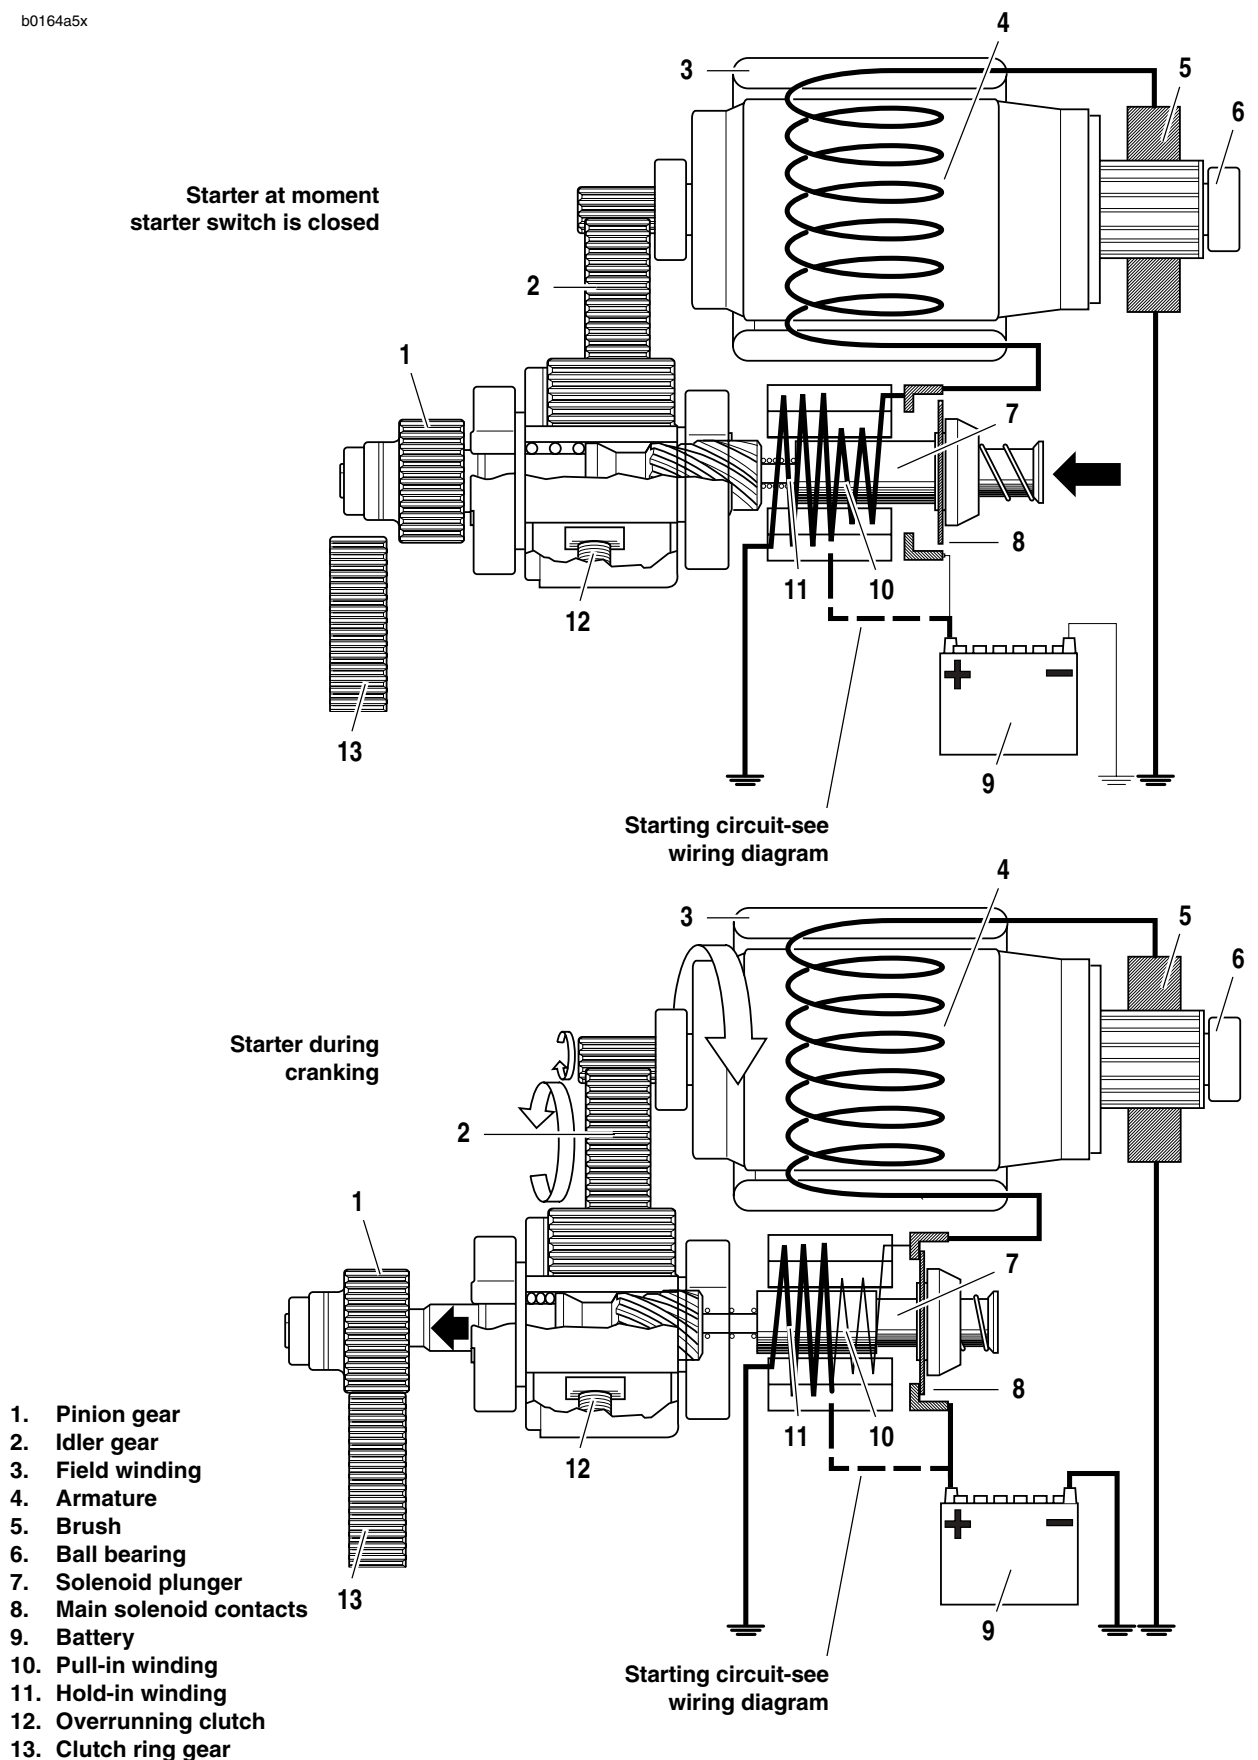

Figure 5-1. Starter Operation
See Figure 5-1. When the starter switch is pushed, the starter relay is activated and battery current flows into the pull-in winding (10) and the hold-in winding (11), to ground.